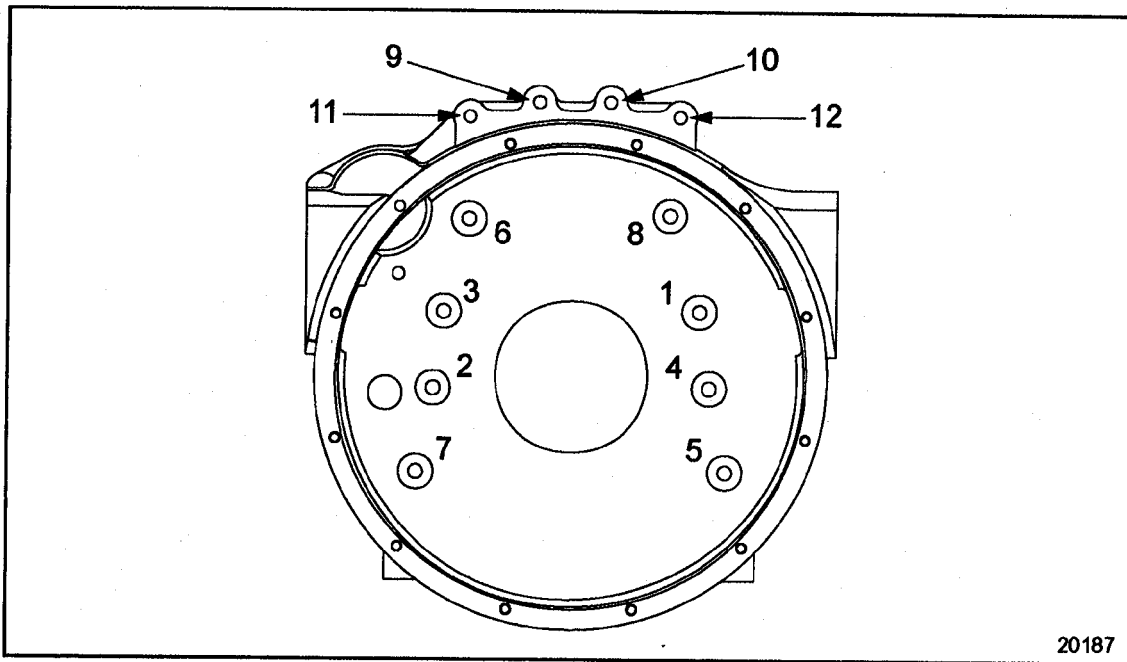

Figure 1-234 Flywheel Housing Bolt Torque Sequence
6. Torque the eight short and four long flywheel housing bolts using the proper tightening sequence. See Figure 1-234.
9. Install flywheel housing. Torque the eight short and four long bolts to the cylinder block using the proper tightening sequence. See Figure 1-234.